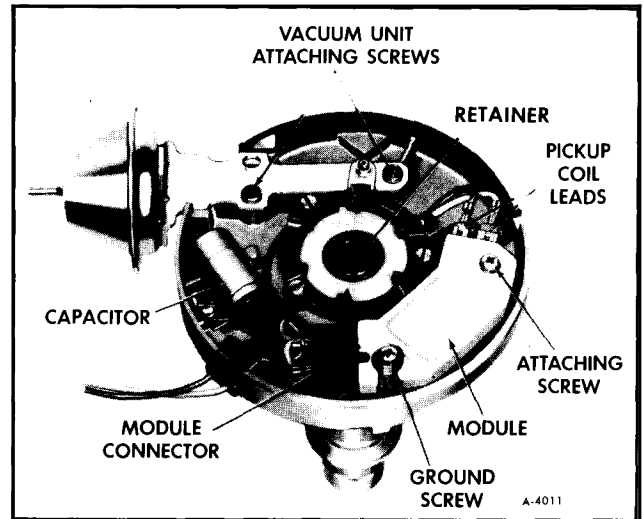

Figure 61—Top View of Distributor Housing with Shaft Removed
6. Check roll pin hole on shaft for burrs. Remove shaft and weight assembly from housing (figure 61).